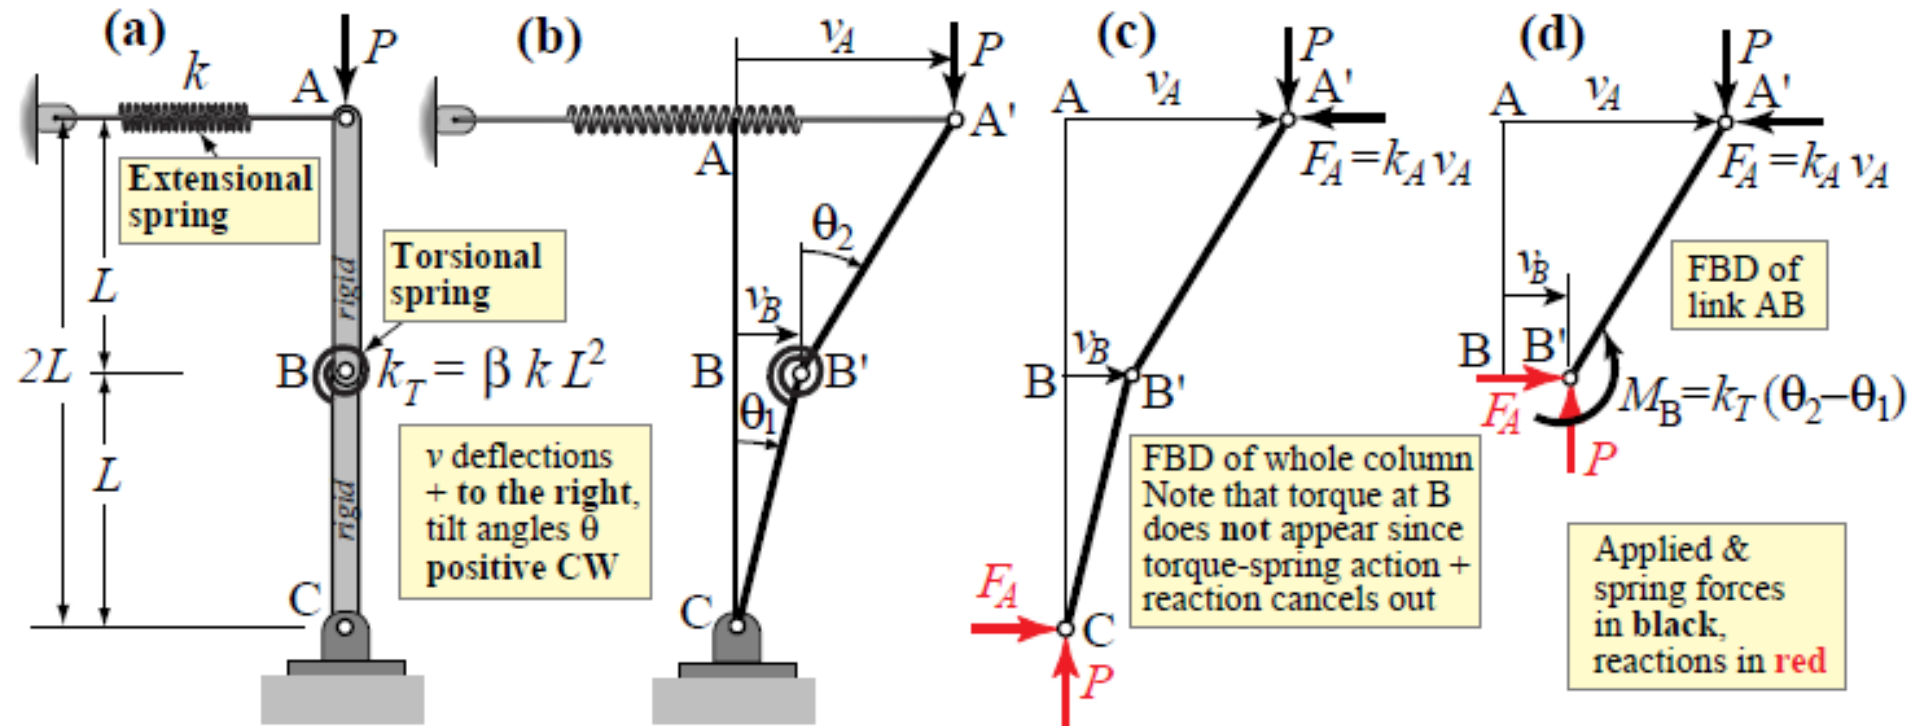

Figure 5: Three-hinged column for Problem 2.
Since the system has 2 DOFs, we need two equilibrium equations. To get them consider the moment equilibrium of: (1) deflected whole column ABC, and (2) link AB. Those are diagrammed in Figures 5(c) and 5(d), respectively. Moments are taken positive CW.